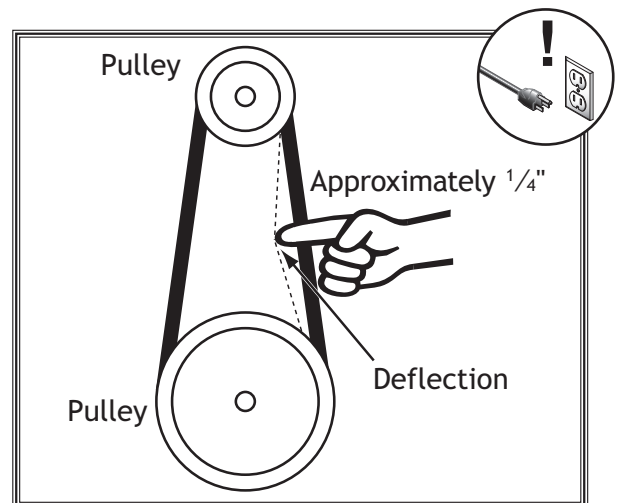

Figure 44. Checking belt tension.
3. Check belt condition and deflection. The belt is properly tensioned if there is approximately 1/4" deflection. Deflection is checked by pushing belt with moderate pressure, as shown in **Figure 44**, and noting how much it moves.